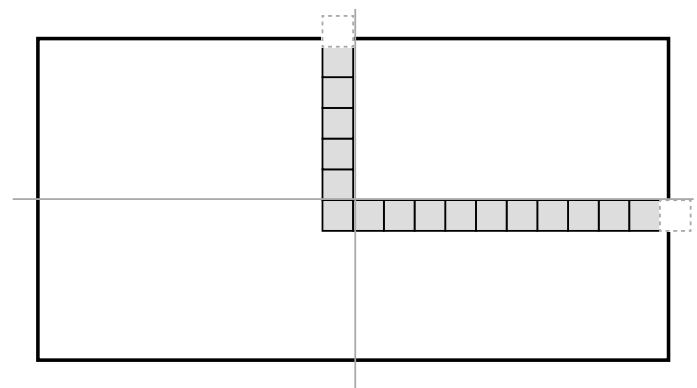

FIGURE 2A Dry lay out tiles to avoid narrow pieces at the ends
- Do a dry layout of the tiles (Fig. 2A).